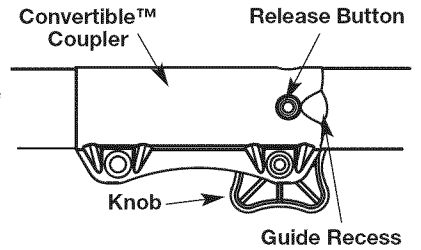

Fig. 1
2. Press and hold the release button (Fig. 1).
- NOTE:** Aligning the release button with the guide recess will help installation (Fig. 1).